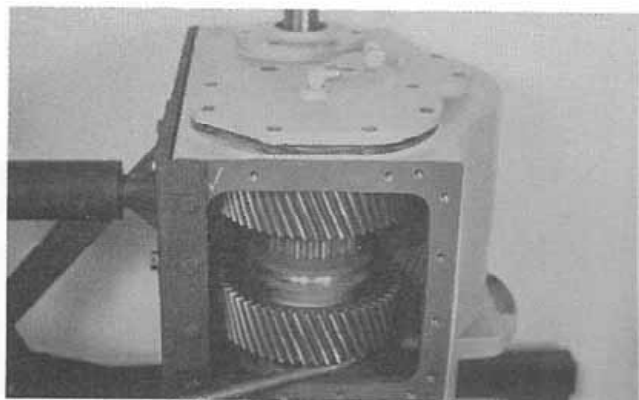
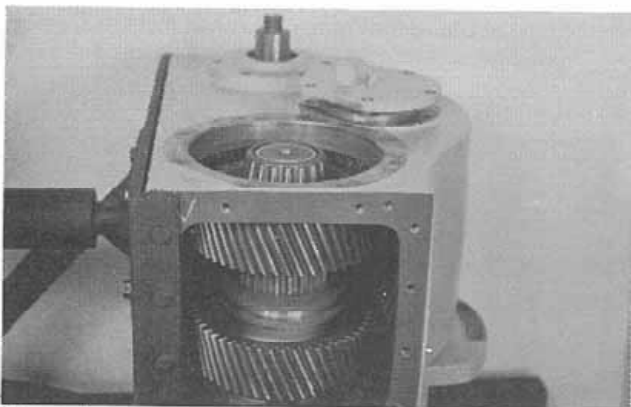

Figure 5:
Figure 6:
5. Position the transfer case assembly as shown (Fig. 4) when removing the rear bearing caps. The caps are fitted with O-ring seals and may require a slight prying force on the gears inside to push the cap from its bore (Fig. 5). Note the number and location of shims under each bearing cap flange and use caution to prevent damage to the shims (Fig. 6).